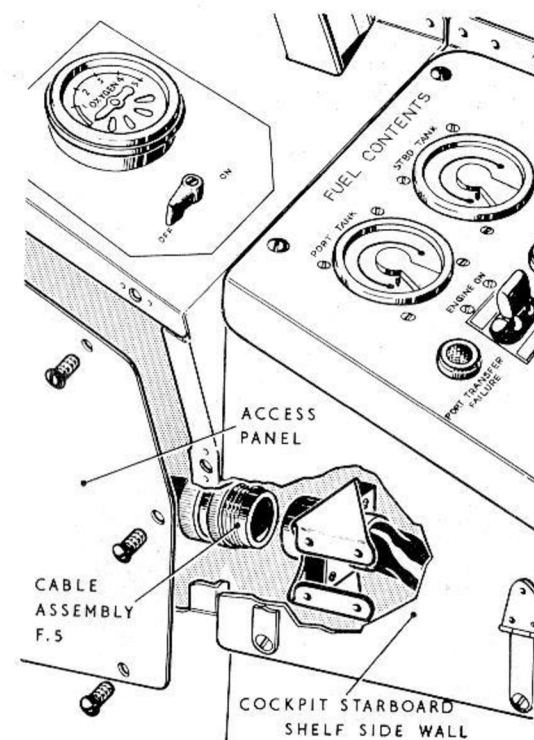

FIG. 4 PLUG AT FORWARD END
- (3) Disconnect cables assemblies F33 and F34 from the A.C. junction box, fit approved caps and covers to the plugs and sockets and coil back the cable assemblies to the starboard shelf.
- (4) Disconnect cable assembly F5 from the plug mounting bracket at the forward end of the shelf (fig.4). Seal off the plug and socket with an approved cap and cover. Stow the cable assembly clear of the shelf.
- (5) Remove the mounting frame, carrying the D.M.E. control unit from the top surface of the shelf, by unscrewing the four screws. Disconnect the radio connector from the control unit and refit the mounting frame and control unit.
- (6) Release the emergency oxygen control cable duct, from the shelf side wall, by removing the bolt securing the clip around the top of the cable duct.
- (7) Release the shelf from the fixed structure by disengaging all the Dzus fasteners around the top face and side wall. Withdraw the shelf from the cabin, complete with cable assemblies F33 and F34.